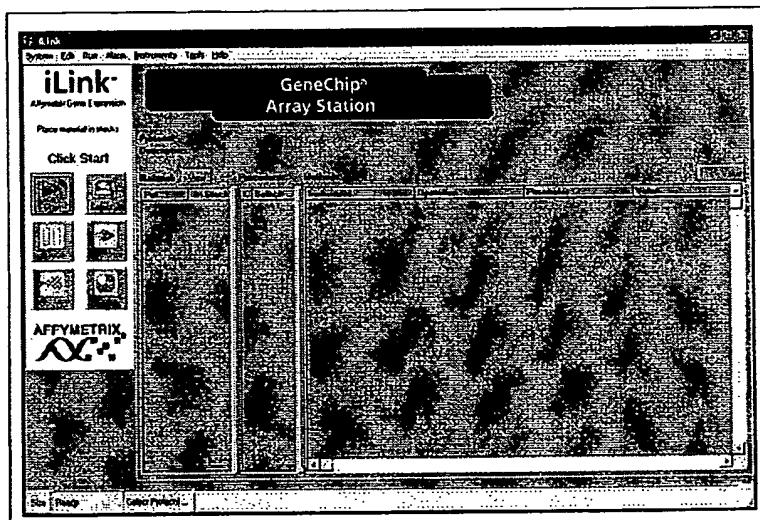

Figure 4.23
2. Open iLink by double clicking on desktop icon, or click Start → Programs → Caliper Life Sciences → iLink → iLink (Figure 4.23).